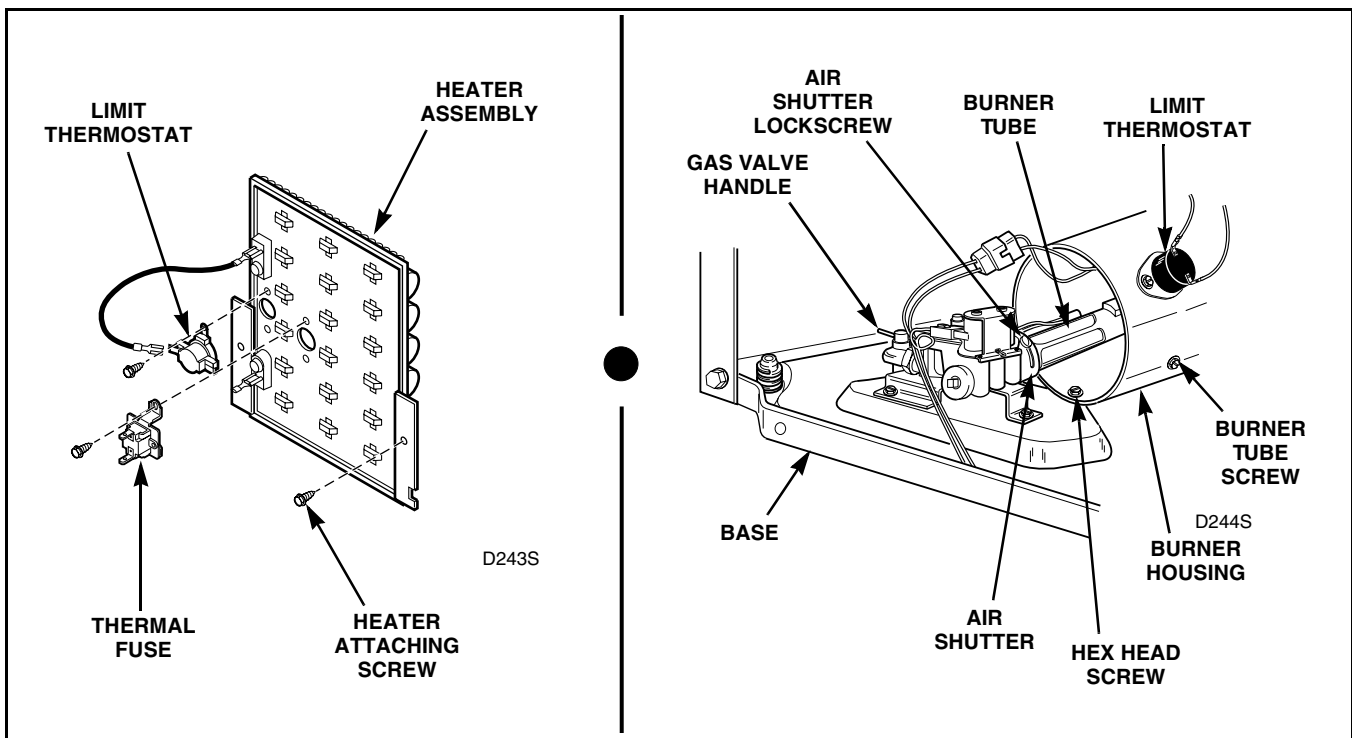

Figure 19
- d. Disconnect wires and remove screws attaching limit thermostat to heater assembly or burner housing. Refer to *Figure 19*.
- Remove screws holding limit thermostat and the thermal fuse to the heater assembly. Refer to *Figure 19*.